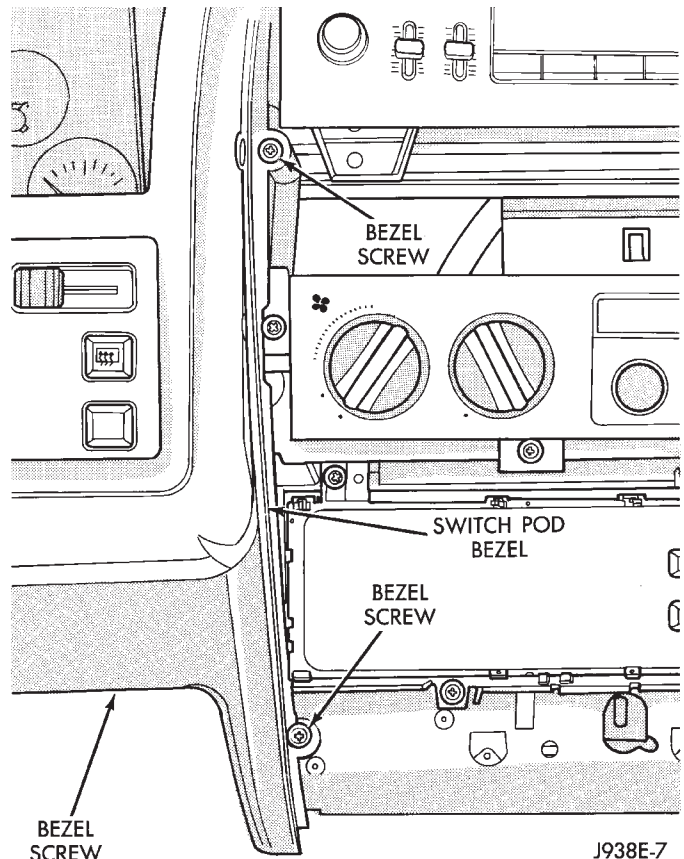

Fig. 10 Right Hand Switch Pod Bezel Screws
- (20) Remove 3 screws holding right hand side of switch pod bezel (Fig. 10).